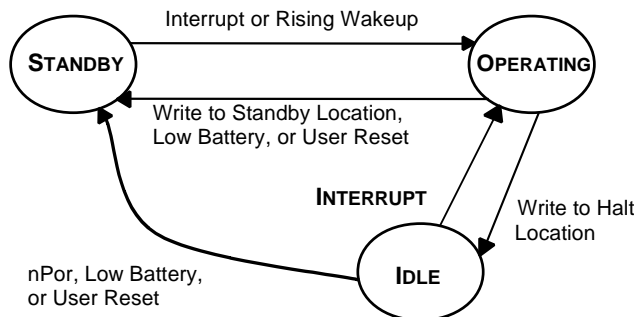

Figure 1. EP72/73XX Power Management States
- Figure 1. EP72/73XX Power Management States 3
See Figure 1 to see the interactions between the power management states.